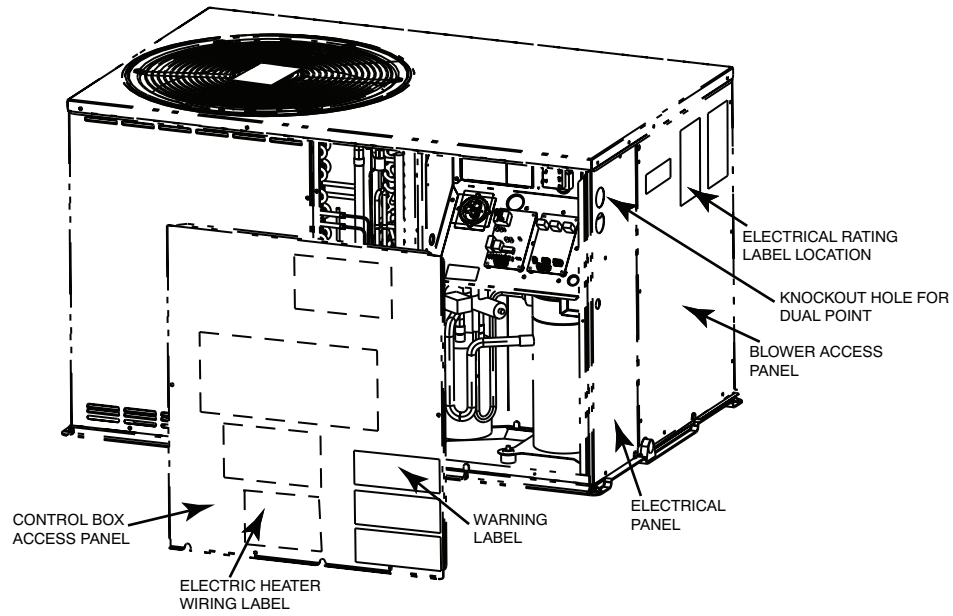
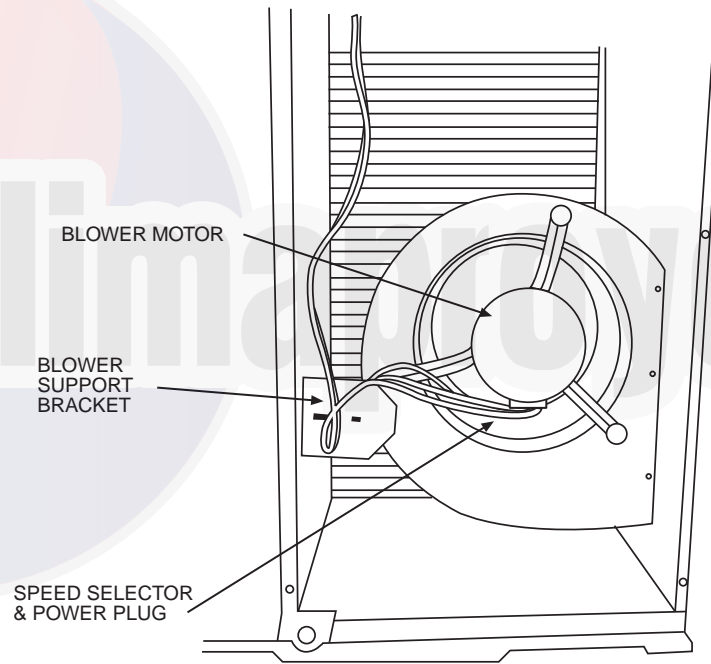

Fig. 1 – Access Panel and Label Location
Fig. 2 – Indoor Blower Compartment
3. Remove unit side panel to access blower compartment (See Fig. 1 and Fig. 2).
4. Disconnect wiring to motor by removing speed selection and power plugs from bottom of motor (See Fig. 2).
5. Remove rear blower support bracket. Remove shipping block and label under blower if unit has one (See Fig. 2).
- Attach the adhesive backed wiring label provided with the heater to the back of the access panel near the unit wiring label (See Fig. 1).
2. Remove Control Box Access Panel (see Fig. 1), check for clearance on the inside of control box, and remove a 7/8-in knockout hole on the Electrical Panel for second power line.
3. Attach warning and rating labels in the selected location (see Fig. 1).